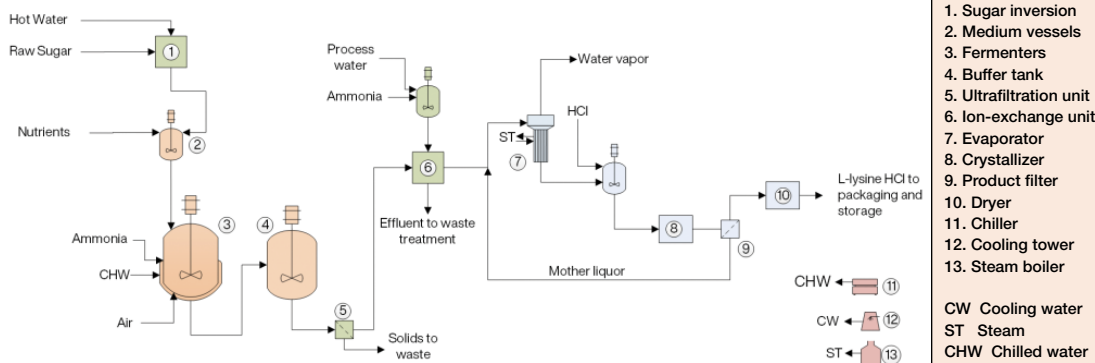

FIGURE 2. The diagram shows the production process for L-lysine
comprises three major sections: (1) fermentation; (2) product recovery; and (3) product concentration, drying and packaging (Figure 2).